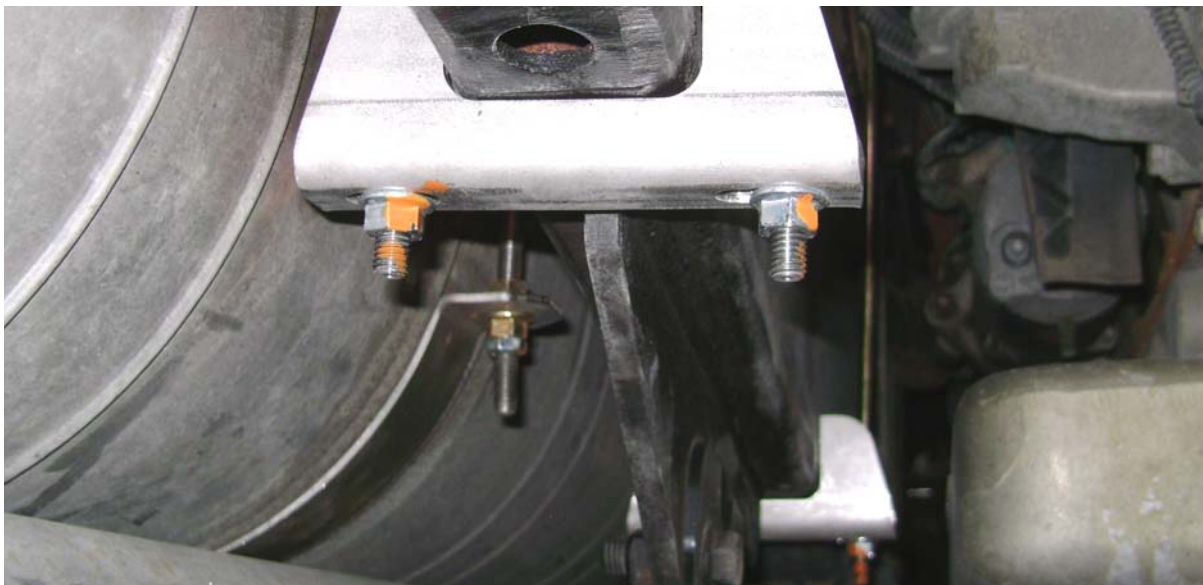

Figure 13.
17. Orient the u-bolts, p/n 08-20-2424 and 2425, on the bracket and engine rail as shown in Figures 13 and 14.